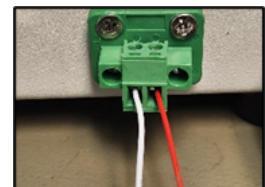

Figure 4
1. Install the two-wire lead (right side of terminal is positive; left is negative) from the 4-20mA source into the terminal block (Figure 4).